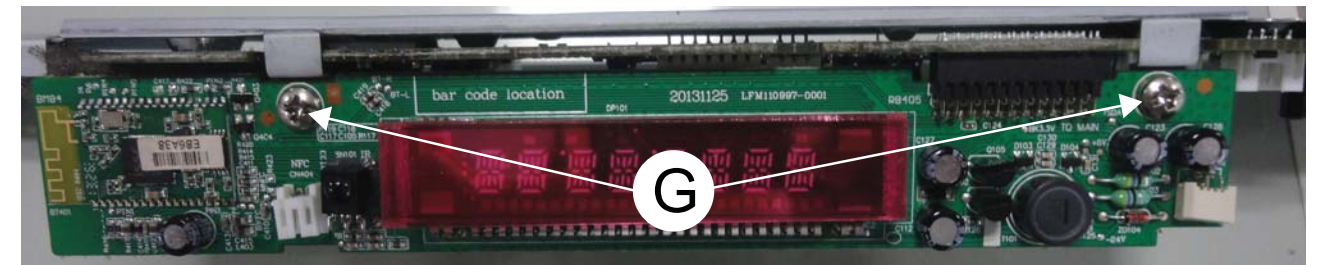

Figure 7
- 1) Loosen 2 screws "G" on the top of VFD+BT board as shown in figure 7.